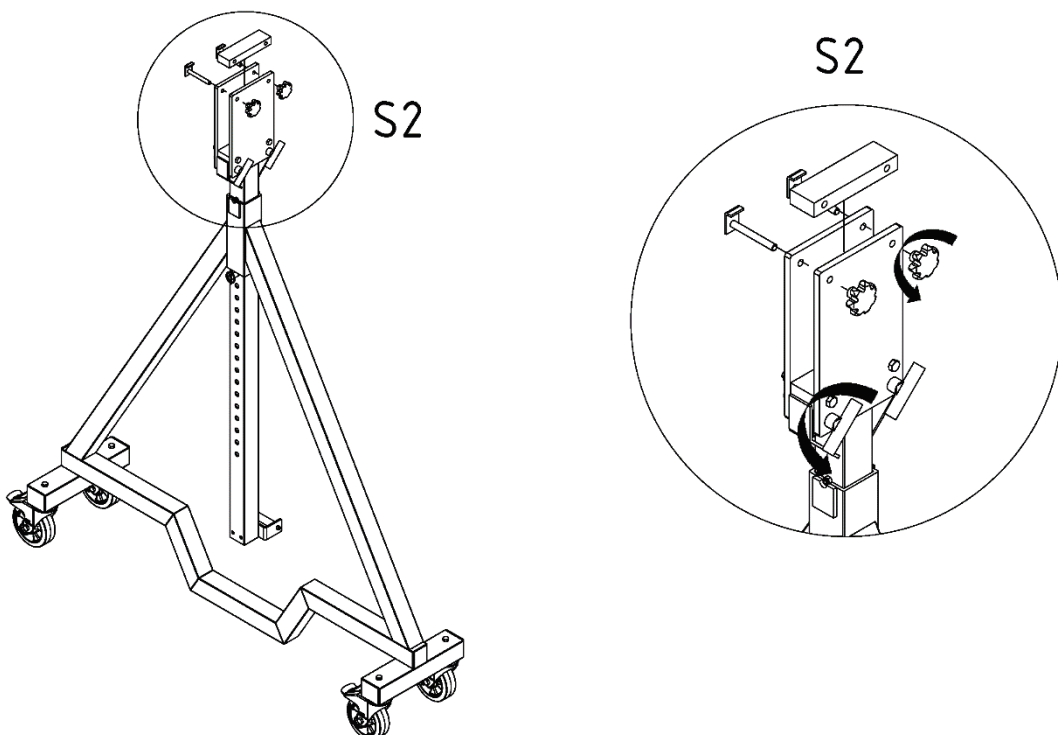

Fig. 2
- 7.2 Loosen clamping screw 2 as shown in fig. 2. Loosen and remove the star knob nuts on the horizontal adjuster. Remove clamping screws 1 and spacer plate 2.